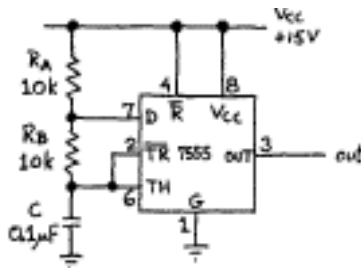

Figure 3. 555 astable oscillator
1. Construct the 555 relaxation oscillator shown in Figure 3. Use 10 volts instead of 15 volts.
1. Build the circuit of Figure 3. Replace  $R_A$  with a 22k $\Omega$  resistor. Replace  $R_B$  with a short circuit (a wire).